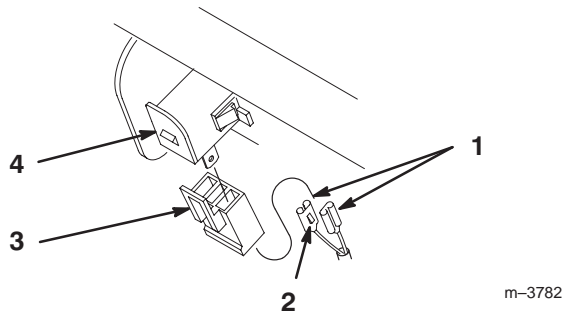

Figure 4
3. Insert terminals into plastic plug until the clips snap into position (Fig. 4). If they do not snap turn around.
4. Push plug onto switch to latch interlock (Fig. 4).